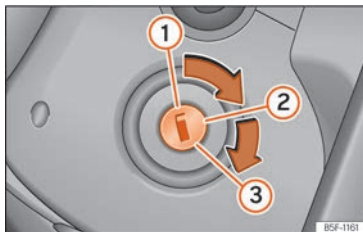

Fig. 230 Ignition key positions.
Key positions » Fig. 230
- Turn the key to position »» **Fig. 230 ②**.
- Keep turning the key to position »» **Fig. 230 ③** without stepping on the accelerator.
- Once the engine starts, release the key. When it is released, the key returns to position **②**.
- *Vehicles with ignition locks:* Turn the key to position »» Fig. 230 ①.